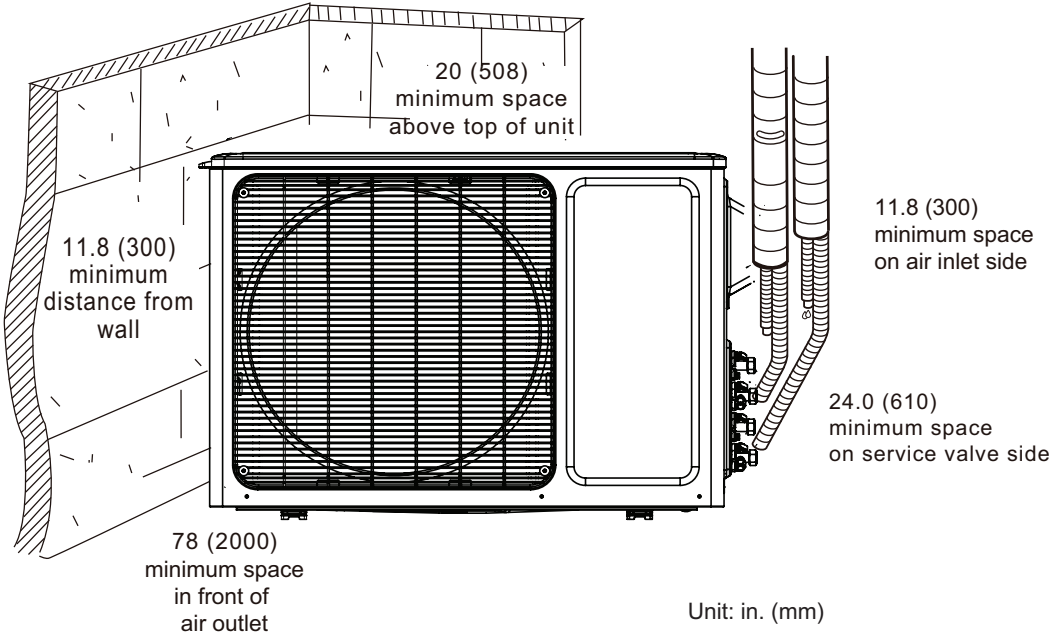
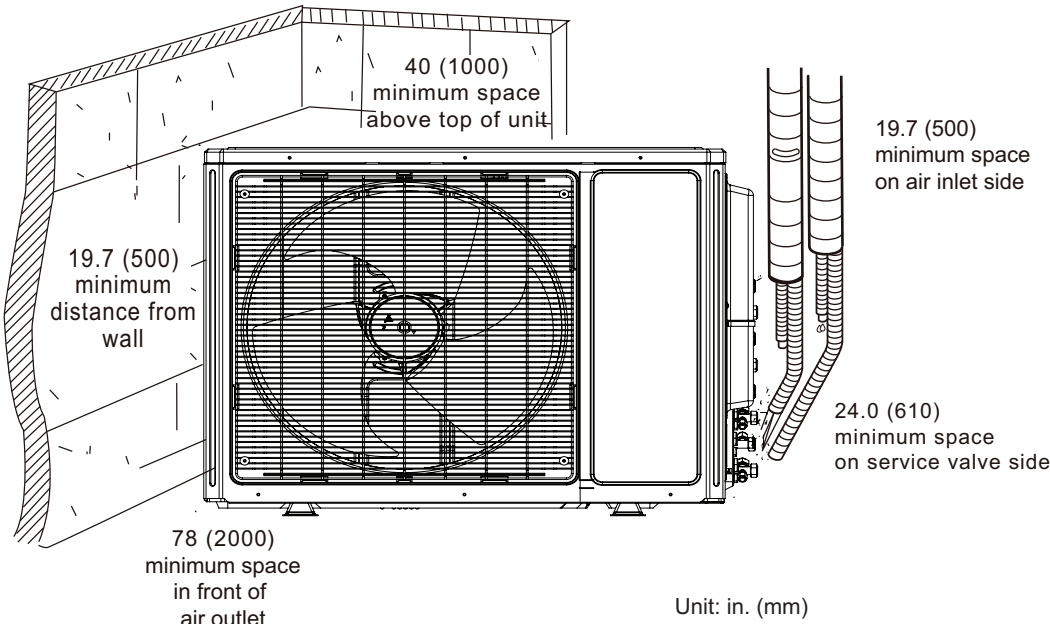

Fig. 8 – 38GVM018, 024, 030
Fig. 9 – 38GVM036, 042
- A location which provides appropriate clearances as outlined in Fig. 8 and Fig. 9.